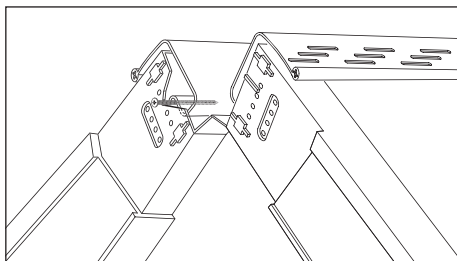

Fig. 6 – Insert verge unit with previous unit
- 11 For the Marley Eternit Universal dry verge system, top course verge unit is retained by inserting a screw into second series of holes in verge unit and locating unit behind mid section of dry verge batten (Fig. 6)